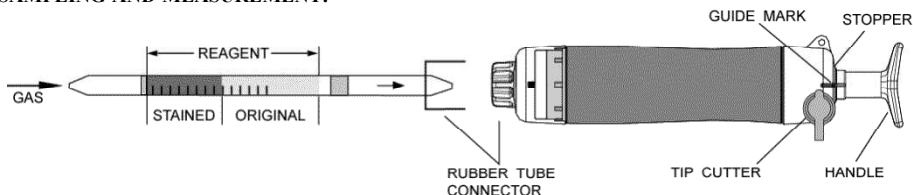

Fig.1
- ② Insert the detector tube into the aspirating pump securely as shown in Fig.1. (Arrow mark shall point to the pump.)
- ③ Align the guide marks on the shaft and stopper of the aspirating pump.
- ④ Pull the pump handle at a full stroke until it locks and wait for 2 minutes or until the completion of sampling is confirmed with the flow indicator of the pump (See descriptions about the flow indicator in the instruction manual of the pump).
- ⑤ On completion of sampling, read the scale at the maximum point of the stained layer.